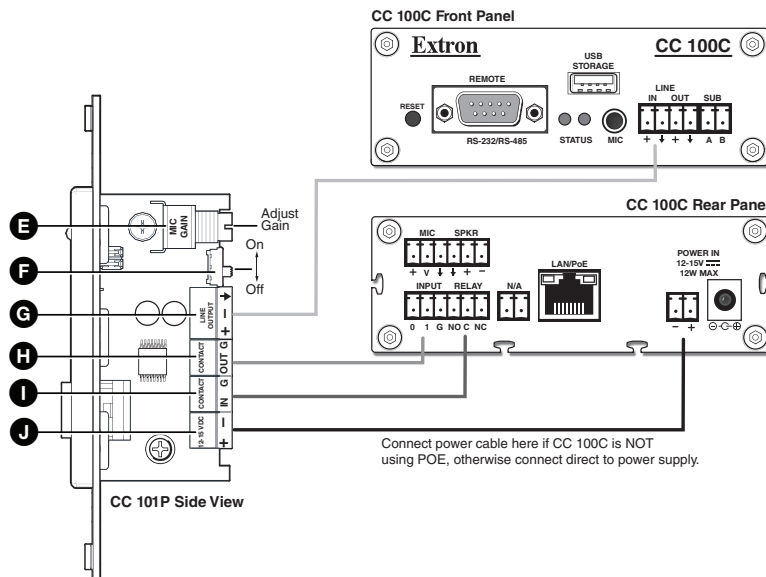

Figure 3. Wiring the Rear Panel of the CC101P to the CC 100C
4. Connect the Line Output cable to the rear panel 3-pole captive screw connector (see **G** in figure 3), and to the Line Input on the front panel of the CC 100C. Connect the positive (+) pole to positive (+) and the ground (arrow) to ground (arrow).
5. Connect the Contact In cables to the rear panel 2-pole captive screw connectors (see **I** in figure 3), and to the relay connector on the rear panel of the CC 100C. Connect the "In" to the "NO" (normally open) and the ground "G" to common "C".
6. Connect the Contact Out cable to the rear panel 2-pole captive screw connector (see **H** in figure 3), and to the contact input connector on the rear panel of the CC 100C. Connect the "Out" to "O" and the ground "G" to ground "G".
7. Observing correct polarity (see Note), connect the power cable to the rear panel 2-pole captive screw connector (see **J** in figure 3), and to the 2-pole power connector on the rear panel of the CC 100C.
8. Turn the system on and test the microphone transmission for level. Adjust the Mic Gain as needed (see **E** in figure 3).
9. Set the tone switch as desired (see **F** in figure 3). When setting the switch to On (up), the unit emits a tone every 10 seconds when the room is being monitored. Setting the switch to Off (down) disables the recurring tone (default setting).